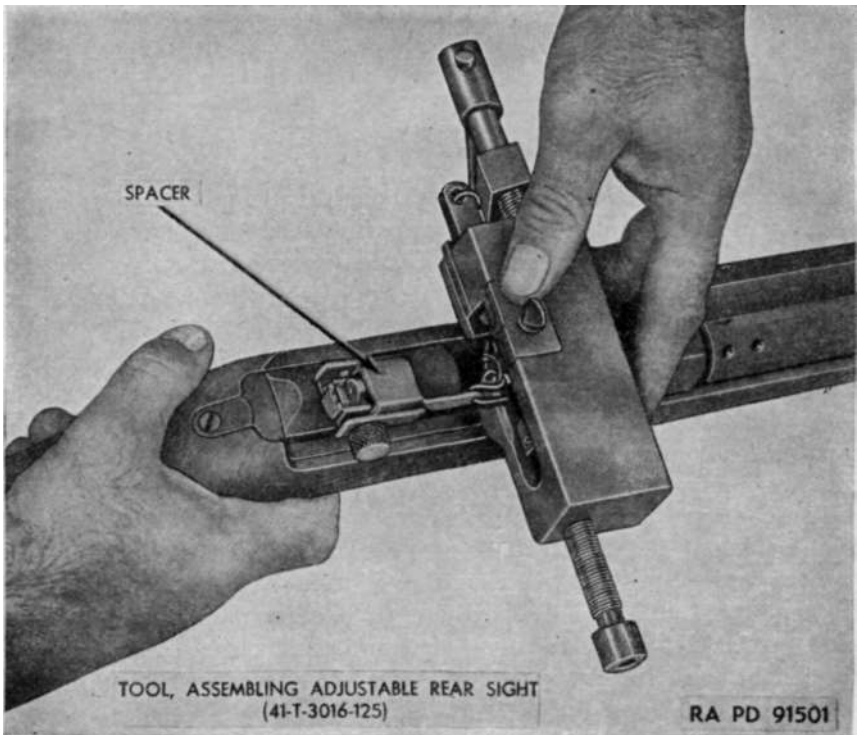

Figure 39. Rear sight assembling tool with spacer.
- c. If stamped type sight is being placed on receiver, place spacer attached to assembling tool in place for reinforcing the side wings of sight. (See fig. 39.)